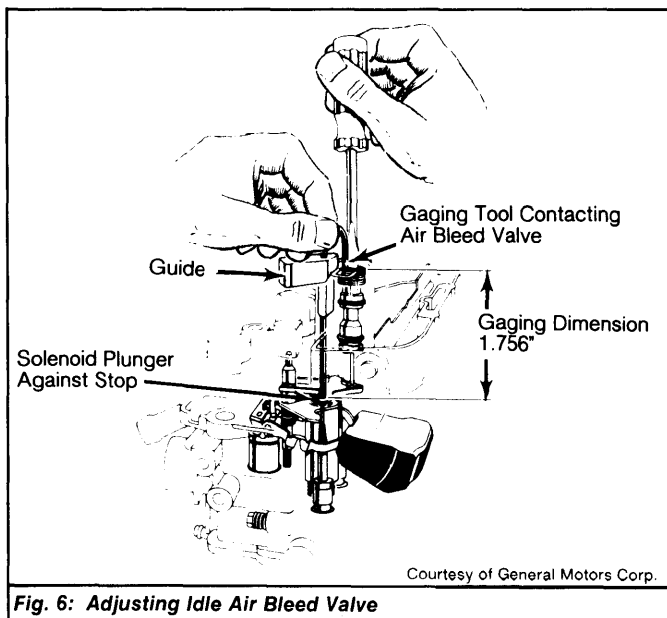

Fig. 6: Adjusting Idle Air Bleed Valve
4) To adjust idle air bleed valve, insert air bleed valve gauging tool (J-33815-2 or BT-8253-B) in throttle side "D" shaped vent hole in air horn casting. Upper end of tool should be positioned over open cavity next to valve. See Fig. 6.
5) Hold the gauging tool down lightly so solenoid plunger is against solenoid stop. Adjust air bleed valve so gauging tool will pivot over and just contact top of valve. See Fig. 6. To finish adjustments, see MIXTURE ADJUSTMENTS in appropriate TUNE-UP PROCEDURES article.